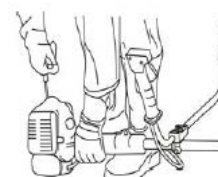

Fig. 25
5. While holding the trimmer firmly by hand at the shaft assembly near the engine, pull the starter strongly Fig. 25